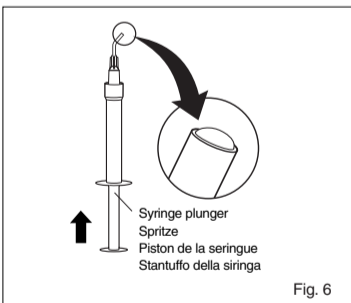

Fig. 6
- To remove any air from the dispensing tip, with the tip pointing upwards gently push forward the syringe plunger until material reaches the mouth of the tip (Fig. 6).
- Etwas Material ausdrücken um Luftblasen zu vermeiden (Abb. 6).